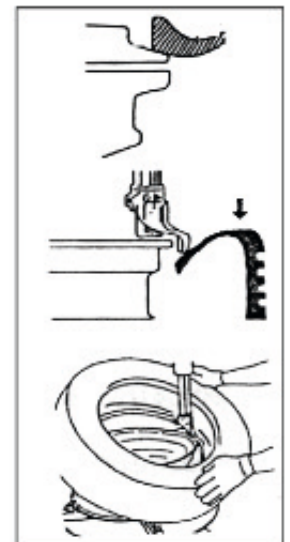

fig18
Place the demount head (4) on the edge of the rim, and move the air valve aim at the mount/demount head.(Fig. 18)
Place one side of the tyre on the upside of the tail of the mount/demount head (4), then press the other side of the tyre under the mount/demount head (4), to make the tyre enter the groove of the rim. (Fig. 18) Pressing the pedal (8) to turn the turntable clockwise, and complete mount the bottom part of the tyre on the rim.